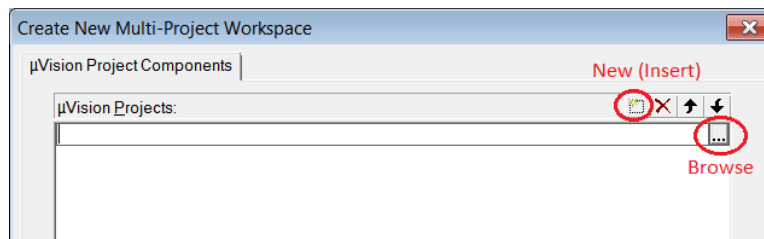

Figure 1.21: Keil IDE: Adding a  $\mu$ Vision Project into Workspace
3. A new dialogue box will pop up to ask you add  $\mu$ Vision projects into the workspace. Click the New button to start adding a project and click the Browse button to select a project file (see Figure 1.21).